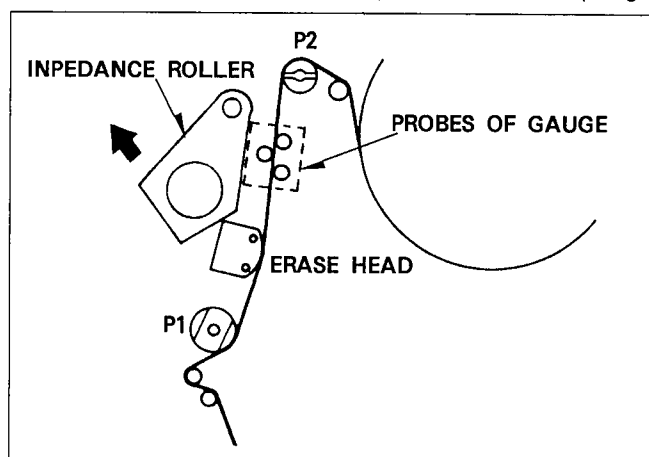

Figure M34-A
2. Pull the Impedance Roller in the direction indicated the arrow in Figure M34-A secure it with a piece of adhesive tape.